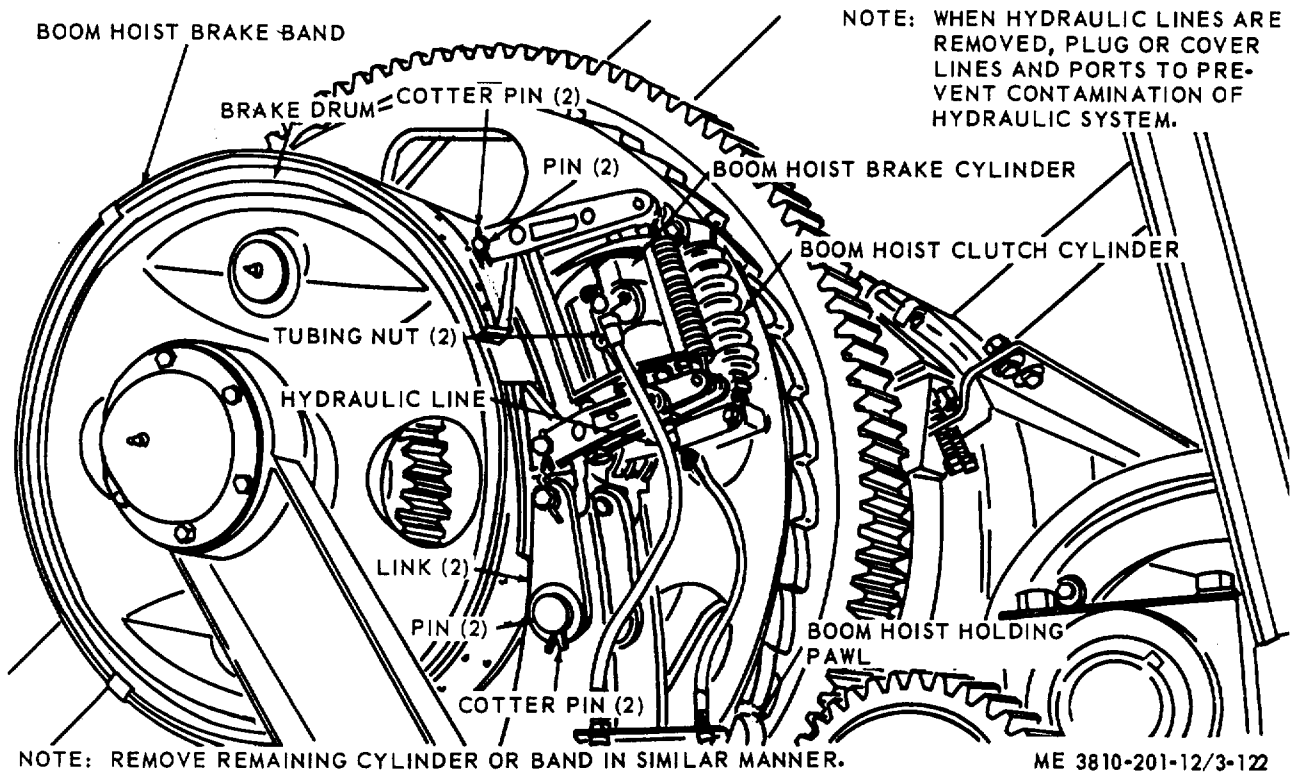

Figure 3-122. Boom planetary of hoist brake band, removal and installation.
(1) Loosen two tubing nuts (fig. 3-122) and remove hydraulic line.
(2) Remove two cotterpins and pins from hydraulic cylinder linkage then remove cylinder (para 3-123).
(3) Remove two cotterpins and pins securing brake band to link, (fig. 3-122) then remove brake band.
(4) Remove remaining cylinder and band in a similar manner.
(5) Install in reverse order.